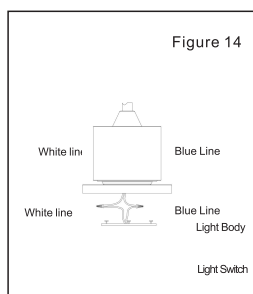

Figure 14
1. The fixture white and blue lines and switch box white and blue lines relatively connected, then the connection wiring beans will tighten the bonnet, then shade lock (Figure 14).